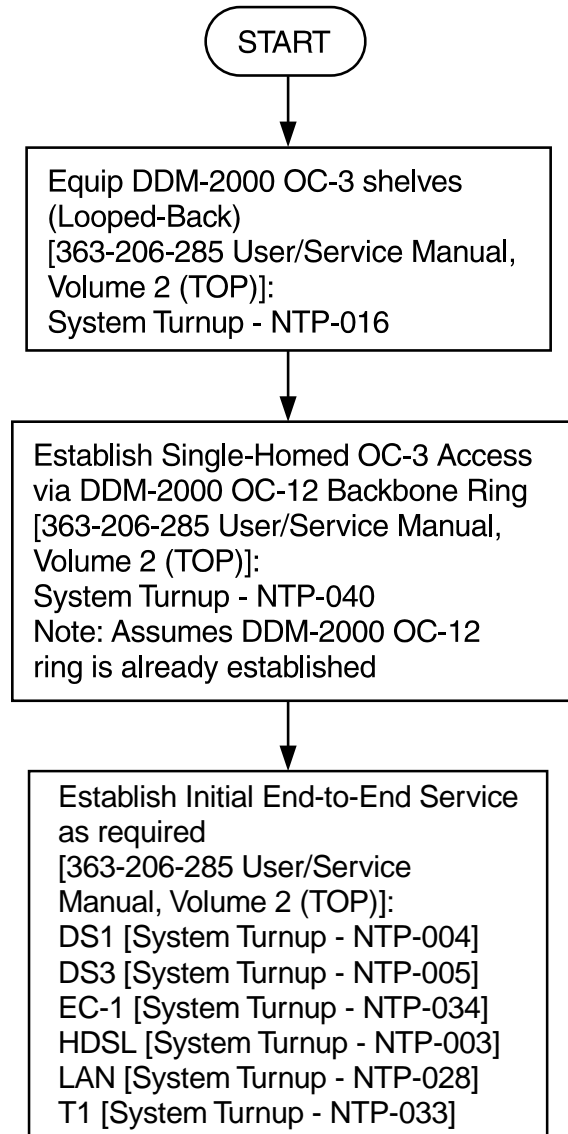

Figure 24 – DDM-2000/FT-2000 Large Network Configurations — Single-Homed OC-3 Access via DDM-2000 OC-12 Backbone Ring
- Figure 24 DDM-2000/FT-2000 Large Network Configurations — Single-Homed OC-3 Access via DDM-2000 OC-12 Backbone Ring